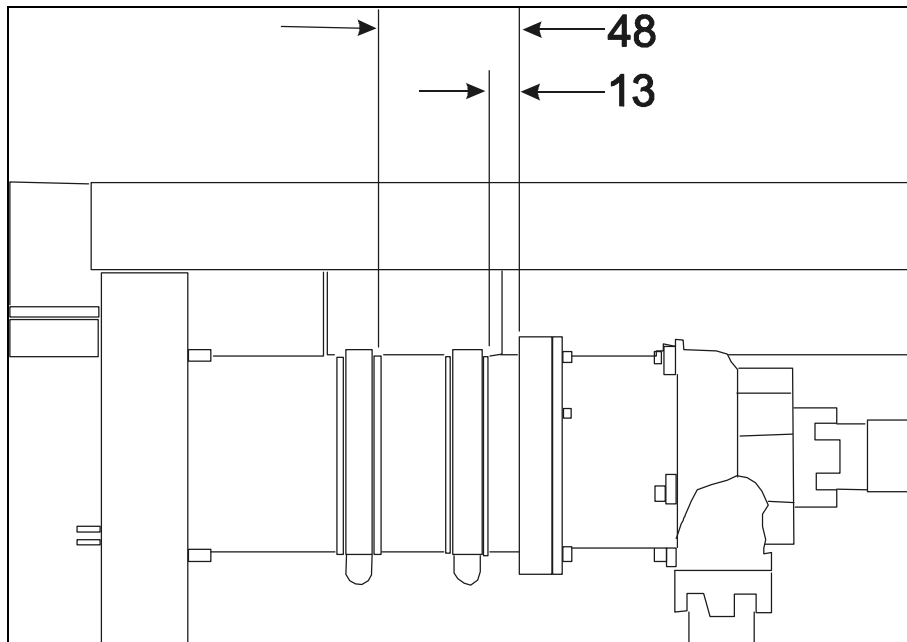

FIGURE 3
6. Cut the supplied rubber band (506728) in 2 parts of suitable length then position the pump rubber bands and retaining clamps (504235) (refer to figure 3).